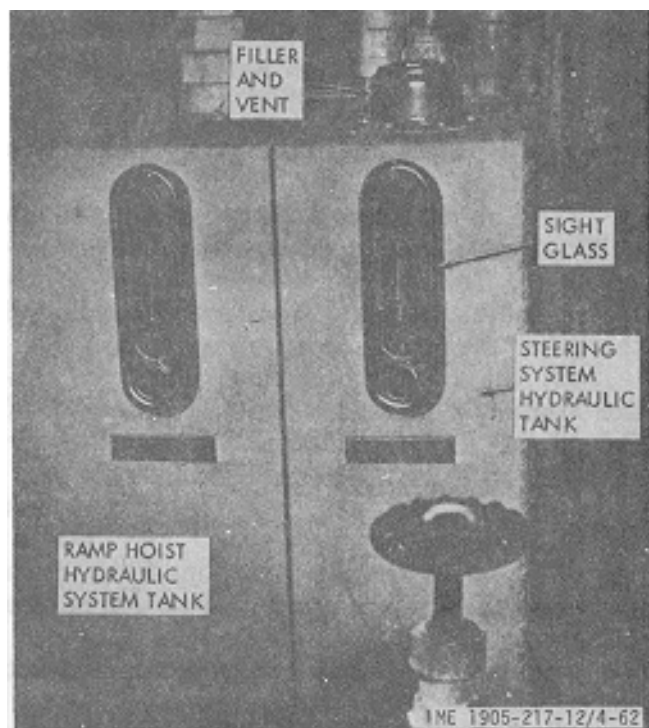

Figure 4-62. Steering and ramp hoist hydraulic system tanks.
(1) These screens (2) are located in the 12gallon steering system storage tank in the engine room. It is necessary to remove the top cover of the storage tank for access to the screens. See figure 4-62.
(2) Drain oil and clean the screens every 200 hours.
(3) Refer to paragraph 4-76 to refill the steering hydraulic system.